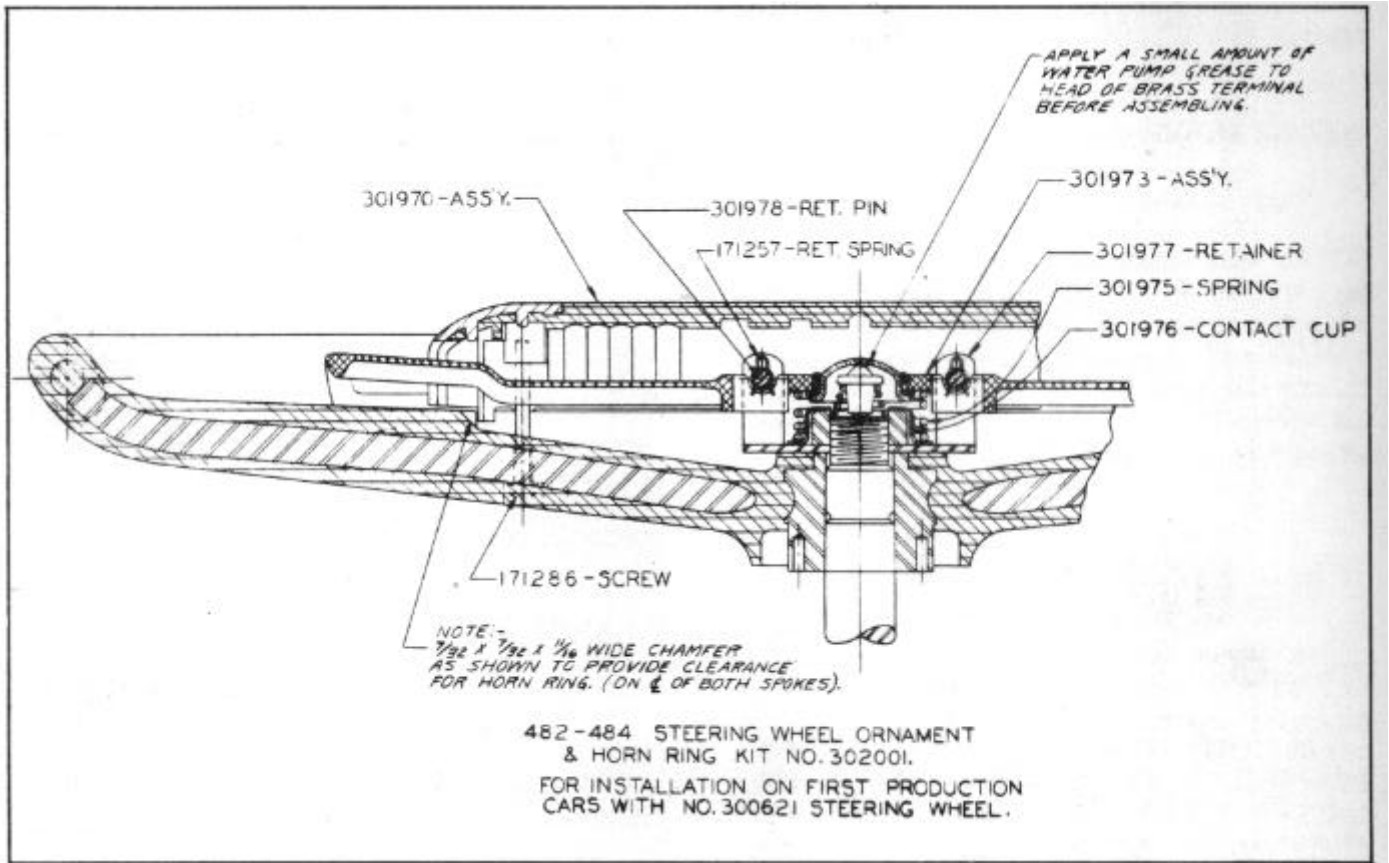

FIGURE 2
1. Remove four screws (171286), Figure 2, from underside of steering wheel.
NOTE: When installing the new steering wheel ornament on first production cars, chamfer steering wheel spokes. See "Note", Figure 2, to provide horn ring clearance.
1. Remove ornament and horn ring assembly, Figure 2.